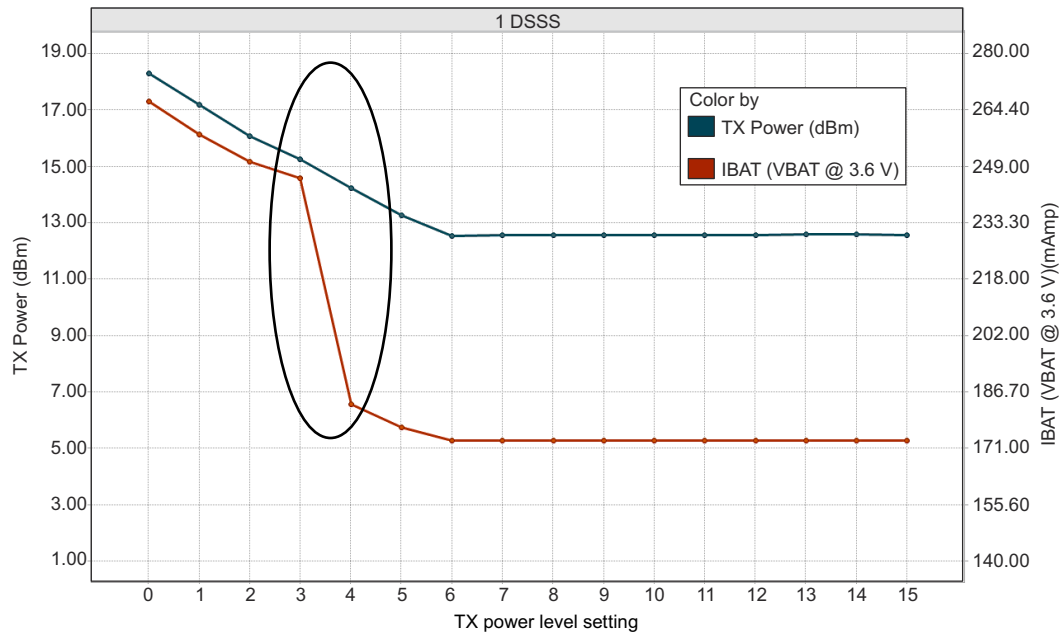
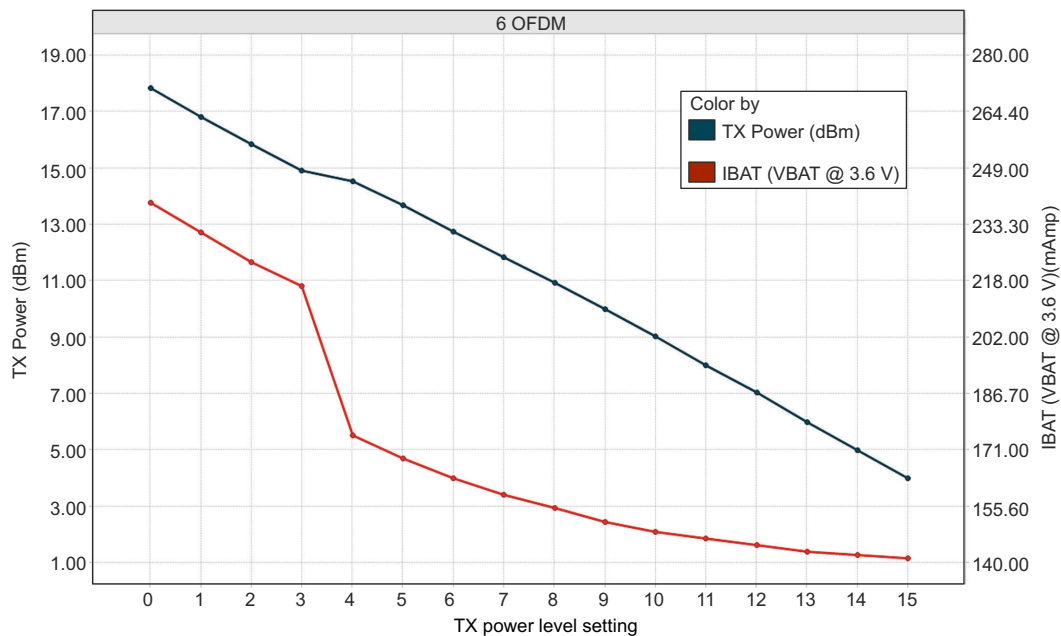

Figure 7-1. TX Power and IBAT vs TX Power Level Settings (1 DSSS)
Figure 7-2. TX Power and IBAT vs TX Power Level Settings (6 OFDM)
- (1) TX power level = 0 implies maximum power (see 図 7-1, 図 7-2, and 図 7-3). TX power level = 4 implies output power backed off approximately 4 dB.
- (2) LPDS current does not include the external serial flash. The LPDS number of reported is with retention of 256KB of MCU SRAM. The CC3230x device can be configured to retain 0KB, 64KB, 128KB, 192KB, or 256KB of SRAM in LPDS. Each 64-KB block of MCU retained SRAM increases LPDS current by 4 μA .
- (3) DTIM = 1
- (4) The complete calibration can take up to 17 mJ of energy from the battery over a time of 24 ms. In default mode, calibration is performed sparingly, and typically occurs when re-enabling the NWP and when the temperature has changed by more than 20°C. There are two additional calibration modes that may be used to reduced or completely eliminate the calibration event. For further details, see CC31xx, CC32xx SimpleLink™ Wi-Fi® and IoT Network Processor Programmer's Guide.
- (5) The CC3230x system is a constant power-source system. The active current numbers scale based on the V_{BAT} voltage supplied.
- (6) Typical numbers assume a VSWR of 1.5:1.
- (1) TX power level = 0 implies maximum power (see 図 7-1, 図 7-2, and 図 7-3). TX power level = 4 implies output power backed off approximately 4dB.
- (2) LPDS current does not include the external serial flash. The LPDS number of reported is with a retention of 256KB of MCU SRAM. The CC3230x device can be configured to retain 0KB, 64KB, 128KB, 192KB, or 256KB of SRAM in LPDS. Each 64-KB block of MCU retained SRAM increases LPDS current by 4µA.
- (4) The complete calibration can take up to 17 mJ of energy from the battery over a period of 24 ms. Calibration is performed sparingly, typically when coming out of HIBERNATE and only if the temperature has changed by more than 20°C. The calibration event can be controlled by a configuration file in the serial flash.
- (5) Typical numbers assume a VSWR of 1.5:1.
図 7-1, 図 7-2, and 図 7-3 show TX power and IBAT versus TX power level settings for the CC3230S device at modulations of 1 DSSS, 6 OFDM, and 54 OFDM, respectively. For the CC3230SF device, the IBAT current has an increase of approximately 10mA to 15mA depending on the transmitted rate. The TX power level will remain the same.
In Figure 7-1, the area enclosed in the circle represents a significant reduction in current during the transition from TX power level 3 to level 4. In the case of lower range requirements (14dBm output power), TI recommends using TX power level 4 to reduce the current.